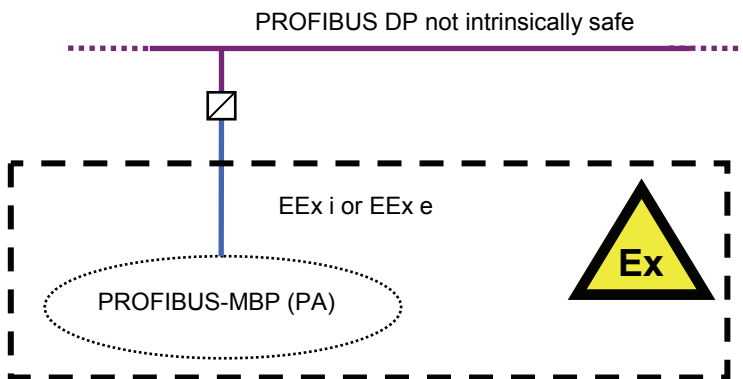

Figure 3-20 Installation site for DP/PA converters
This problem can be avoided by always installing the DP/PA converter outside the hazardous area (see Figure 3-20 Installation site for DP/PA converters) and by providing an intrinsically safe connection (EEx i) or a connection in "increased safety" (EEx e) between the converter and the PROFIBUS-MBP (PA) network. When using the protection class "increased safety" (EEx e) additional elements (Fieldbus Barriers) will be required.